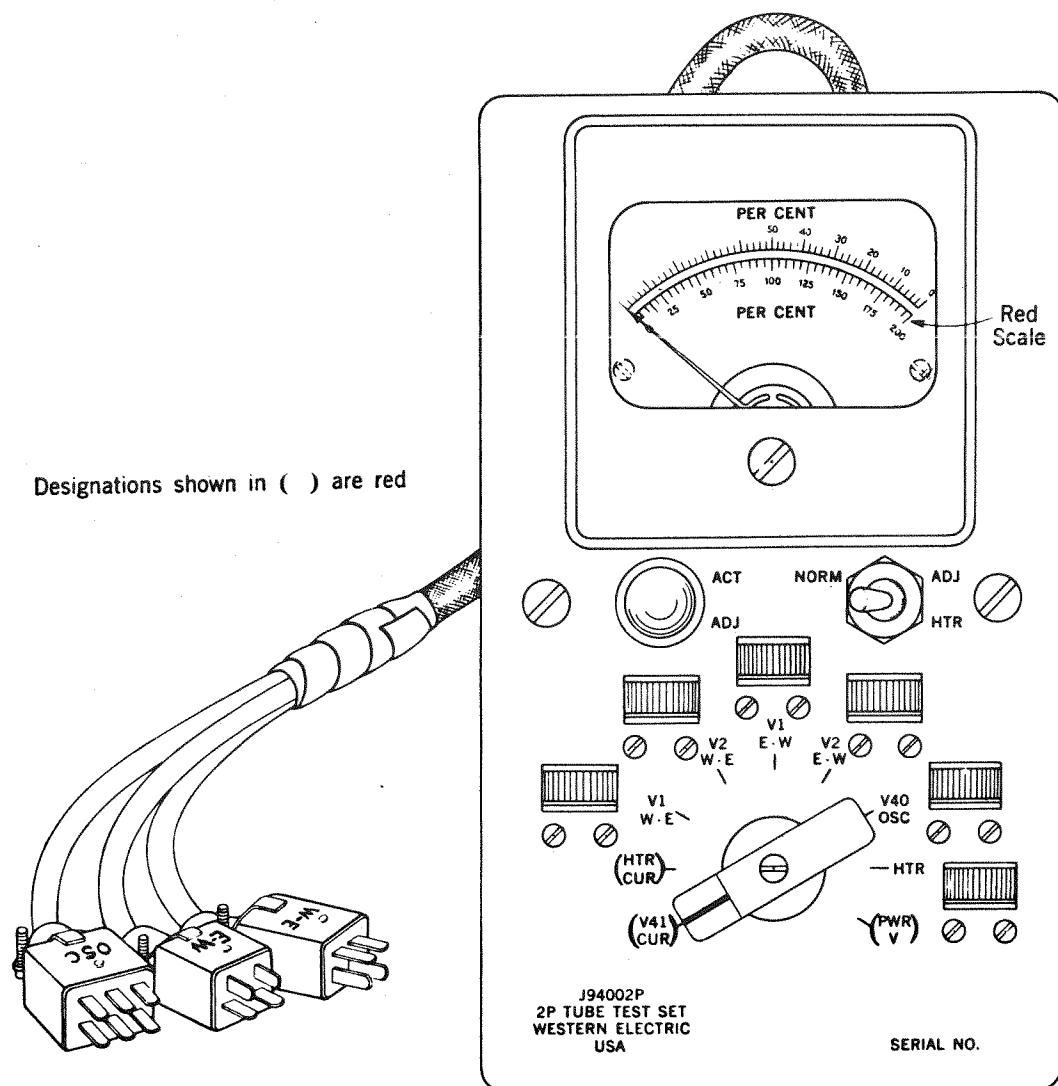

Fig. 1 - Face View of 2P Tube Test Set
2.01 A face view of the 2P Tube Test Set is shown in Fig. 1. The selector switch is in the lower middle of the panel and is surrounded by the control knobs of the 6 variable
meter M1. Resistor R9 is for damping the meter movement and is connected across meter M1 for all switch positions except the one for measuring heater current. Resistor R9 is removed during this measurement to minimize the effect of temperature changes. Resistors R10 and R11 are the fixed and variable resistors, respectively, which are used to reduce the heater voltage when measuring cathode activity. The toggle switch shown on Fig. 1 is for connecting resistors R10 and R11 in or out of the heater circuit. Resistors R12, R13, R14 and R16 are associated with the selector switch HTR CUR position and are of such values that when meter M1 has a 100% reading on the red scale, the heater current of the electron tubes in the units under test is 98 ma. Resistor R12 is used as a factory adjustment to obtain this condition. Resistor R15 is of such a value that at 140 volts d-c meter M1 indicates 100% on the red scale.